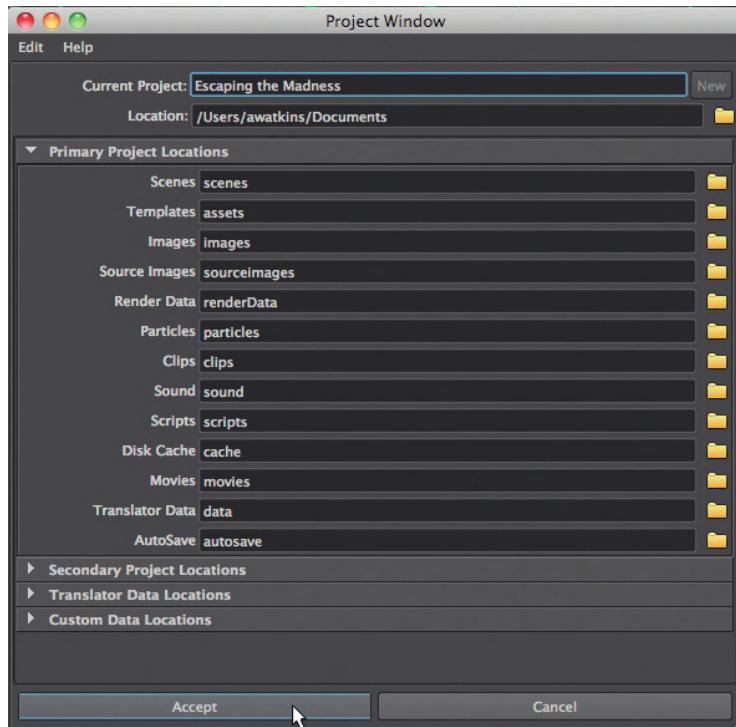

FIG 2.28 Project Window ready to fire the creation of the new Project.
Step 4: Click on the folder icon at the end of the Location input field and choose where you want to store (what will become) the new Project folder (Fig. 2.28).